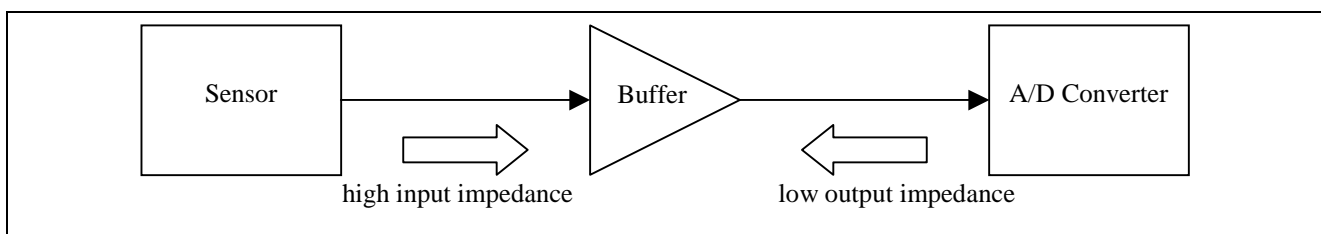

Figure 6 Signal Isolation
- A low-impedance buffer should be inserted when converting a high-speed analog signal as shown in figure 6. The buffer provides a high-impedance for the sensor and a low-impedance drive for the A/D converter.